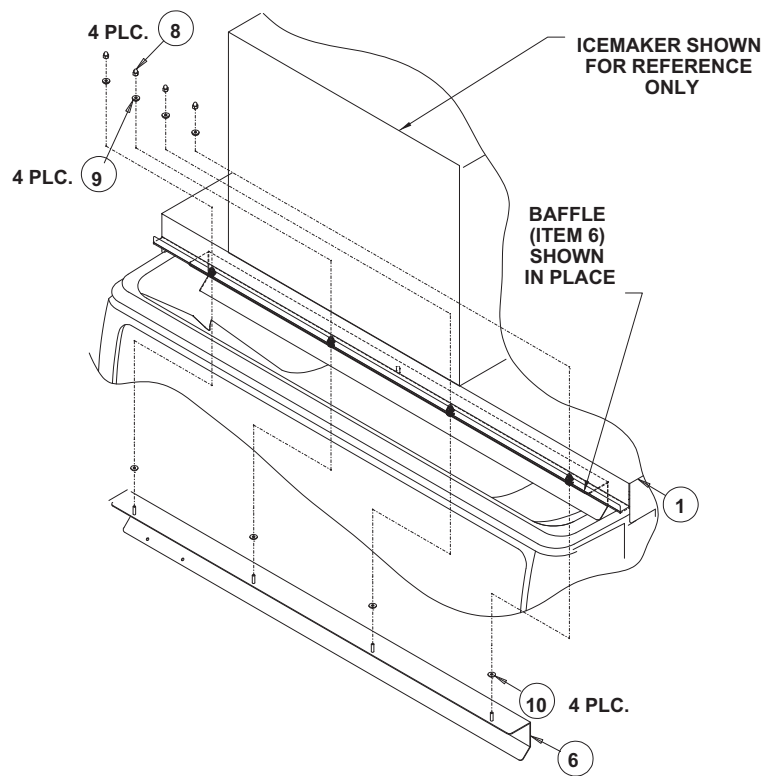

Figure 2.
1. Remove the (2) screws from each side of the dispenser cabinet. and the plastic hopper covers (2) that were shipped with the unit.
2. Place the "K" style lid on the unit and use the (4) screws that were removed to fasten the lid in place.
3. Install the ice baffle on the lid assembly as shown in Figure 2.